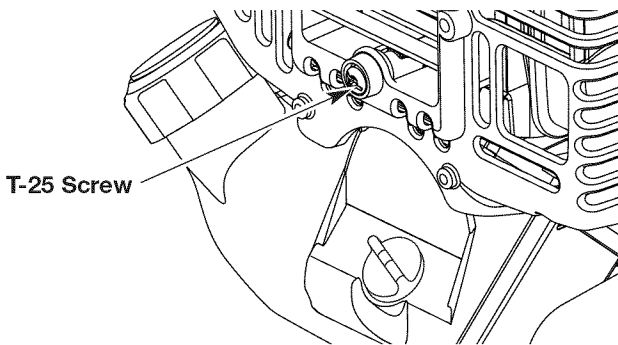

Fig. 24
2. Remove the screw behind the engine cover with a Flat-head or T-25 Torx screwdriver (Fig. 24).